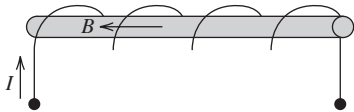

FIGURE P12.8 The magnetic field of a coil.
- 12.8 (H) A magnetic field can be obtained by winding a current-carrying wire onto a cylindrical coil as shown in Figure P12.8.